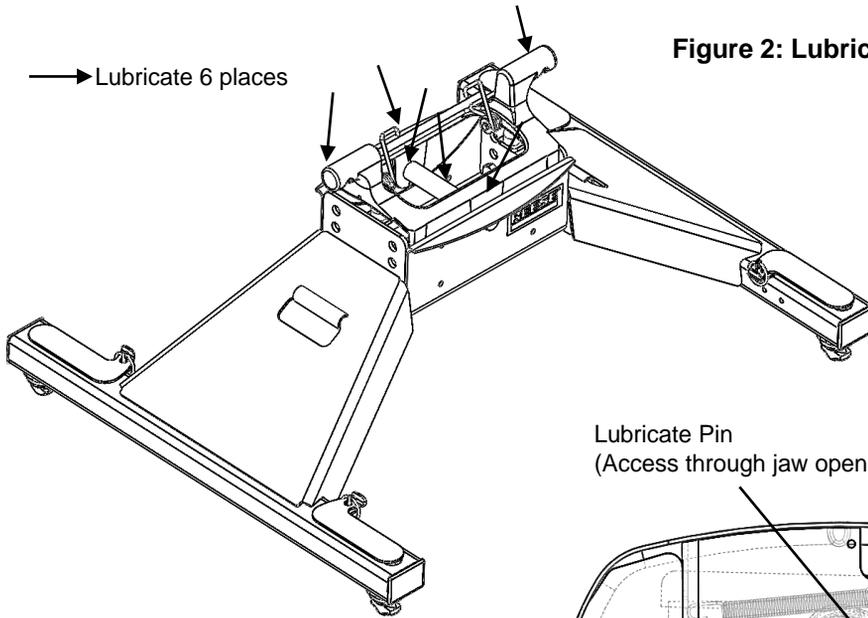

Figure 2: Lubrication Points
1. Lubricate skid plate surface of the hitch and pivot pin grease fitting (see Figure 1) with automotive type chassis grease. Skid plate can also use a plastic lubrication plate to provide a lubricated surface. Use lithium grease to lubricate pivot point of moving parts within the hitch. (see Figure 2, 3, and 4)
1. Lubricate center section as shown in Figure 2 with lithium grease.